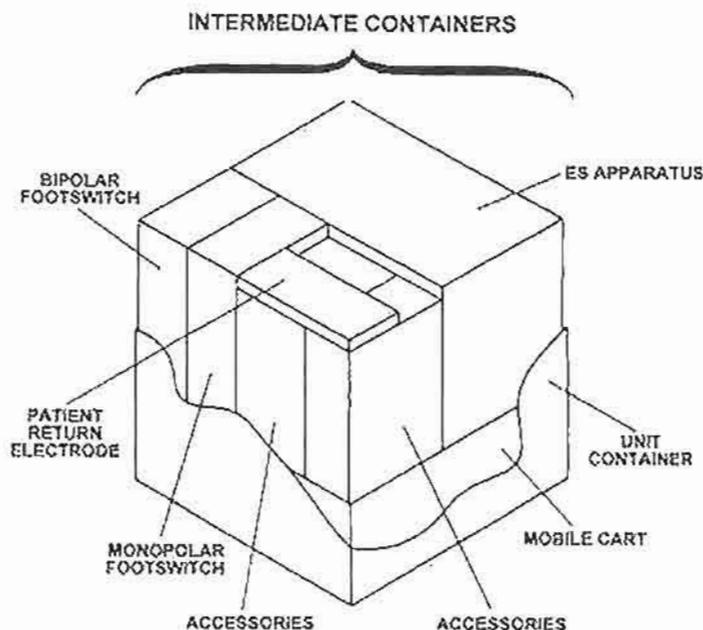

Figure 3-1. Commercial packaging.
(1) Open the cardboard unit container and remove the cardboard intermediate containers which are illustrated in figure 3-1.
(2) Unpack the cardboard intermediate containers and verify receipt of the following materiel: